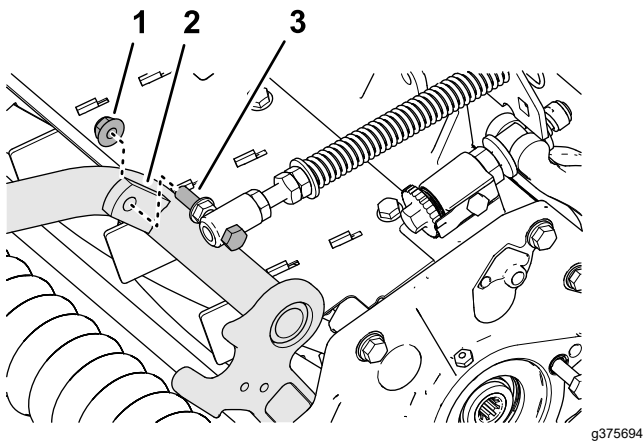

**Figure 8**
3. Remove the flange locknut (3/8 inch) that secures the capscrew of the turf compensation spring to the right tab of the carrier frame, and remove the compensation spring from the cutting unit (Figure 8).